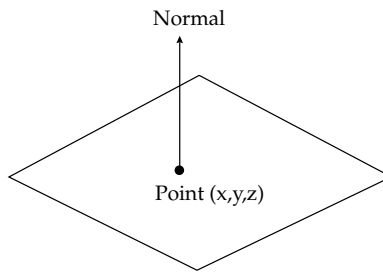

Figure 28.2.5: Plane Cut Defined by Point and Normal
- Specify a point on the plane and the normal to the plane (see Figure 28.2.5).